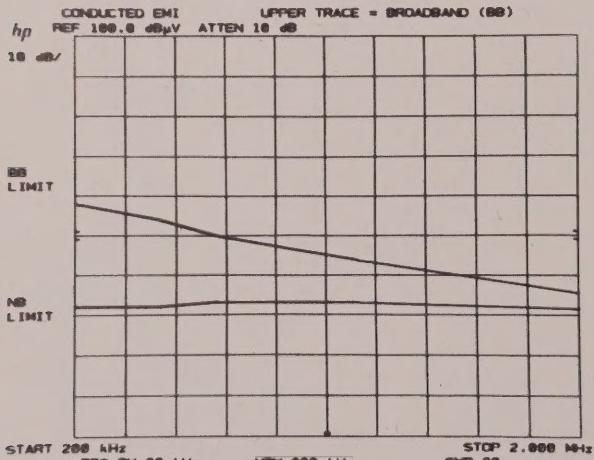

Figure 4. Composite BB and NB limit line.
Once the "HZ" key is pressed, the program branches to a subroutine which draws a composite broadband (BB) and narrowband (NB) limit line from 200 KHz to 2 MHz on the CRT (see figure 4). The composite BB limit line represents the CE03 specifications which have been adjusted for the transfer impedance of the current probe and normalized to a 1 MHz impulse bandwidth.1 The NB limit line only requires an adjustment for the probe impedance.